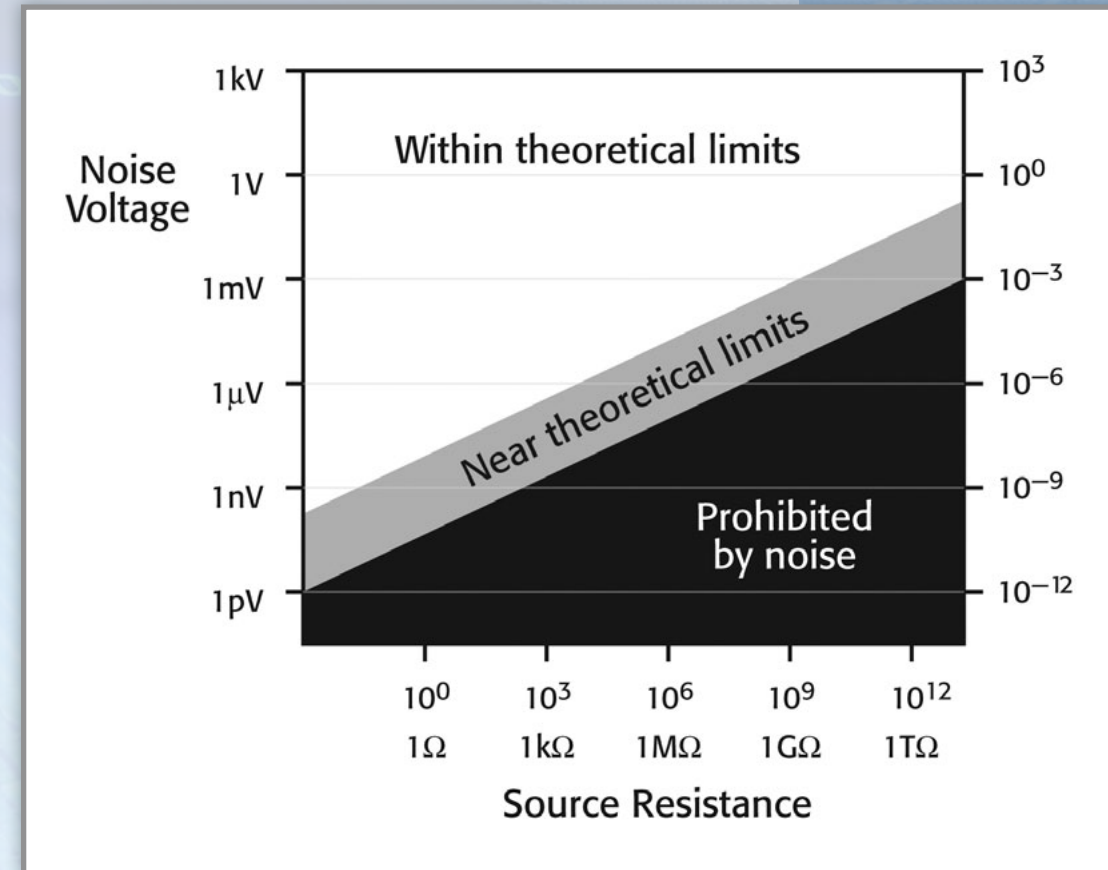

Figure 6
- **Theoretical measurement limits.** The laws of physics provide a fundamental limit of how low a signal can be resolved because every system will generate some level of voltage and current noise. **Figure 6** identifies the levels of voltage that are impossible to measure, as well as the levels approaching the theoretical limits of voltage measurement.